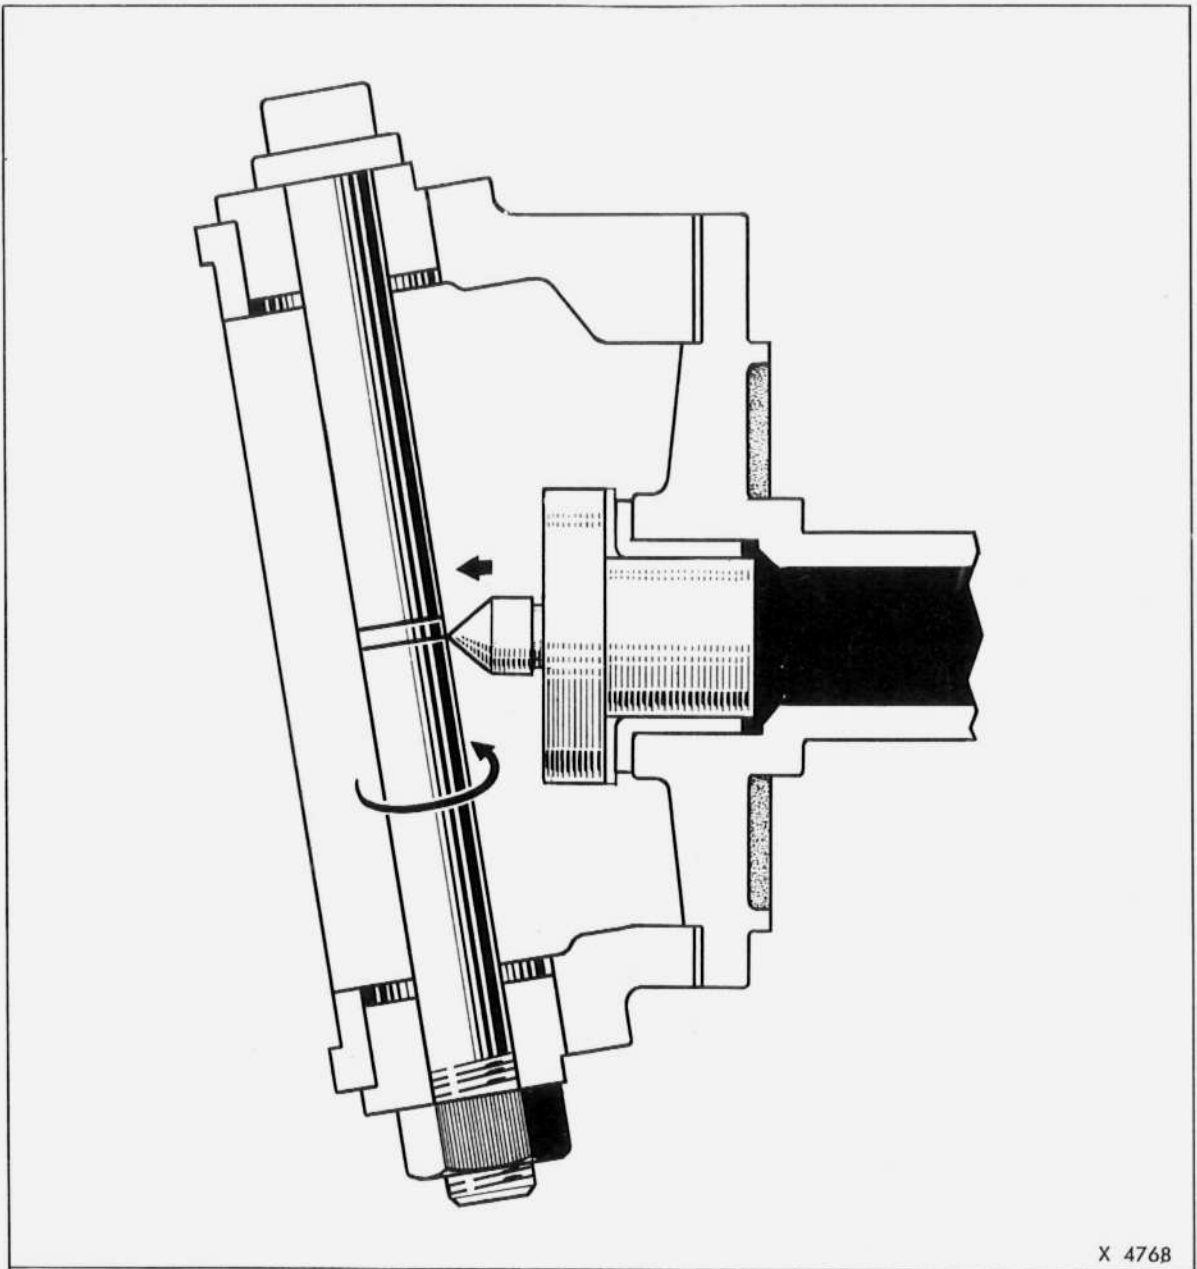

Fig. 5-8 Scribing a Line on Rod Gauge
2. Remove the rod gauge together with the lower attachment from the bottom of the axle housing, taking care not to remove the line scribed on the rod gauge. Pull out the adapter with plug from the bushing, and install the adapter assembly in the drive shaft bushing in the spindle. Install the rod gauge and the attachments in the same manner as done in section (I).
3. Mark another line on the rod gauge by revolving the rod gauge in the steering knuckle as shown in Fig. 5-8.